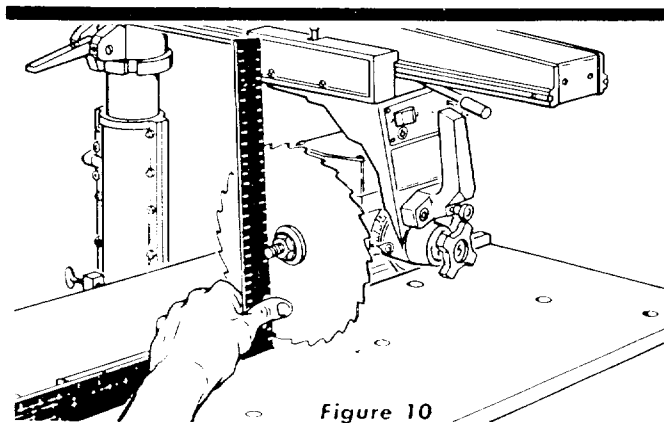

Figure 10
1. Place the edge of a framing square on the table top and against the saw blade as shown in figure 10.